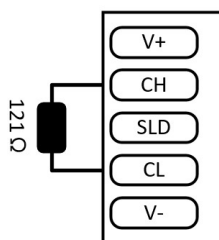

Figure 5-6-10 Terminal resistance wiring
**Notice:** The power interface on the CANopen adapter requires a separate DC 24V power supply. Terminal resistors must be added to both end modules of the network. The wiring method for the terminal resistors is shown in Figure 5-6-10.